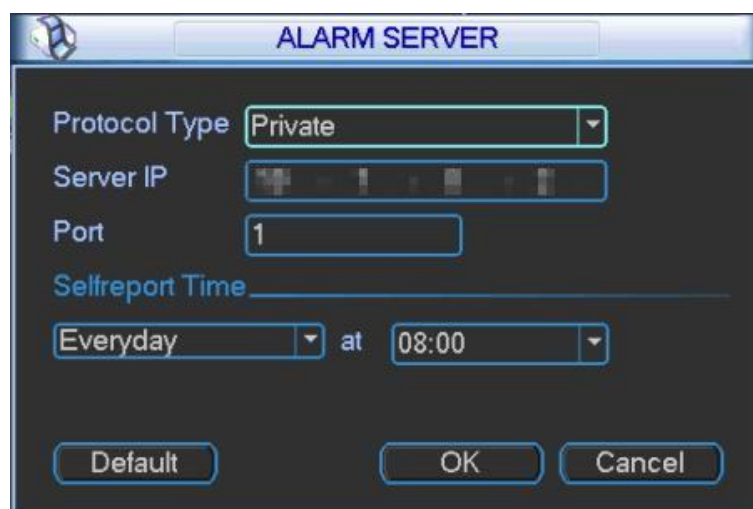

Figure 3-46
Step 1 In main menu, select "Setup> Network> Network Setup > Alarm Server", and the system displays "Alarm Server" interface, as shown in Figure 3-46.